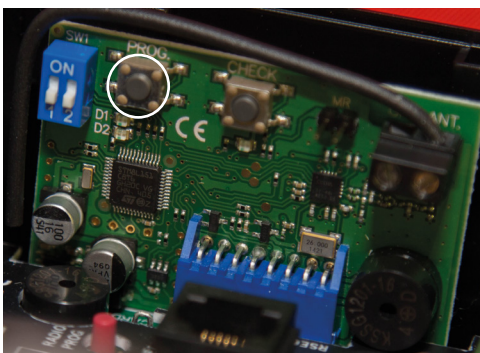

fig.9
- 8** Inside the receiver box press and hold the "PROG" button on the receiver card (this is the card plugged onto the board) until you hear a single beep (fig.9), then within 5 seconds press and hold the "PROG" button on the wireless safety edge (fig.8C) and you will hear another beep from the receiver box.